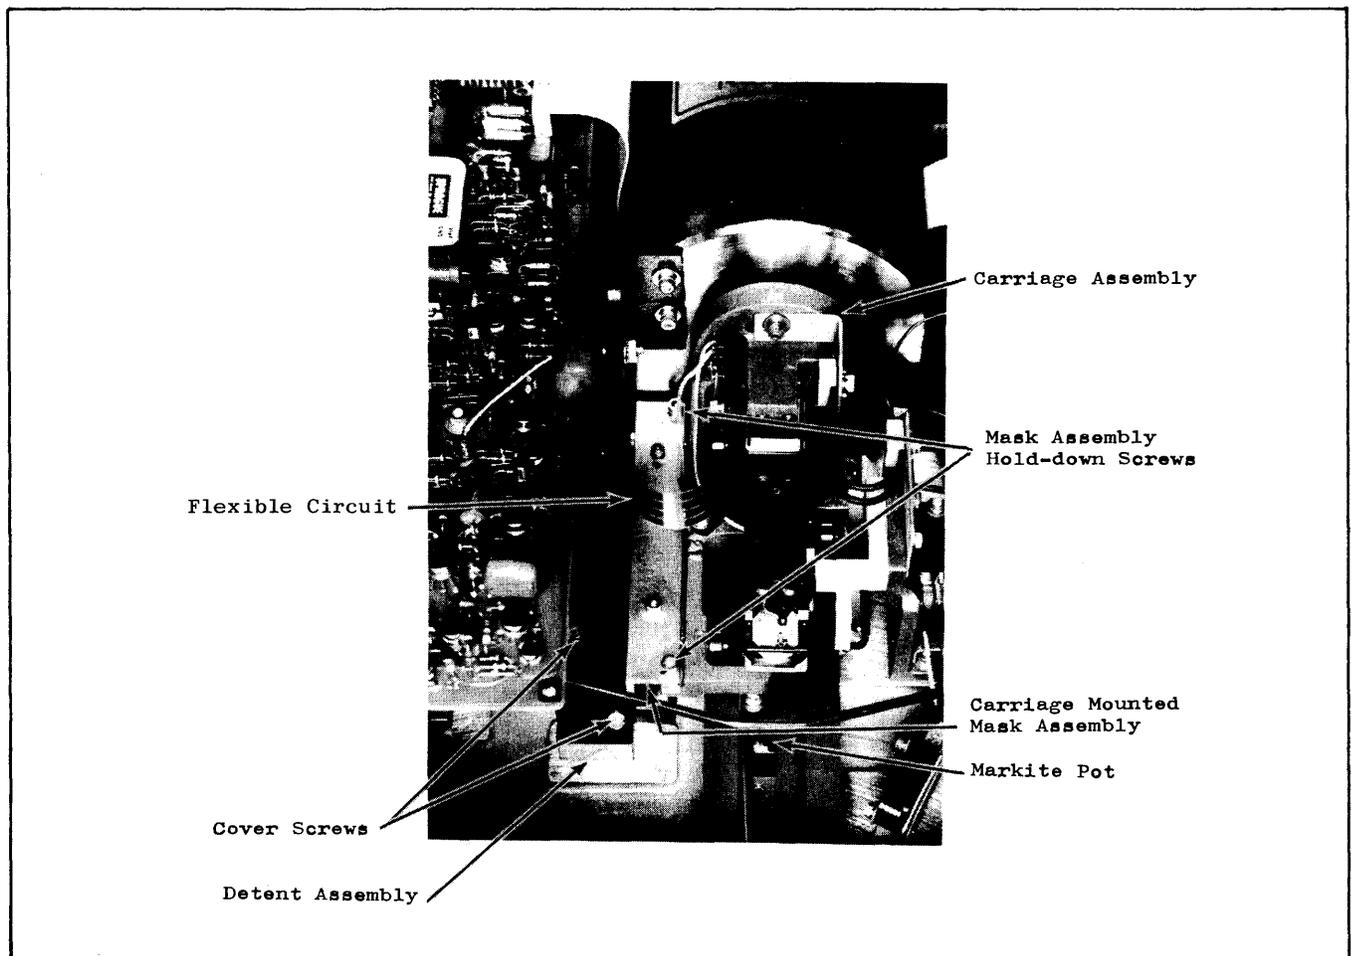

Figure 5-10. Detent Assembly
2. Flexible circuit removal/replacement figure 5-10.